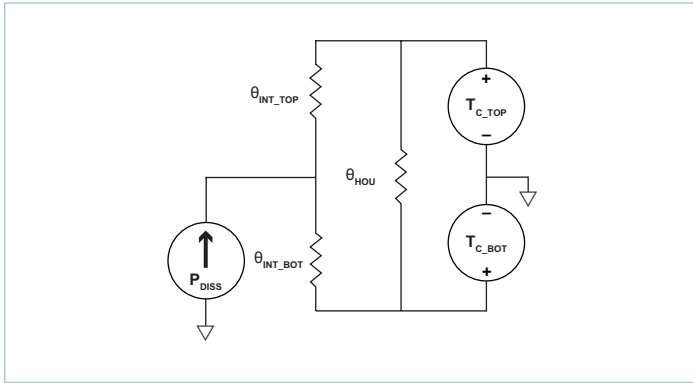
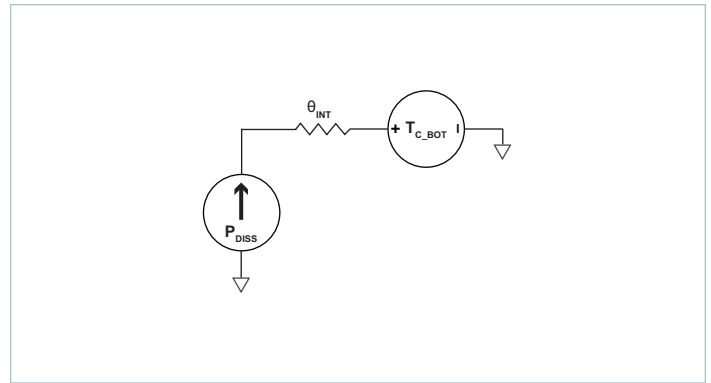

Figure 22 — Double-sided cooling VIA thermal model
Figure 23 — Single-sided cooling VIA thermal model
The VIA package provides effective conduction cooling from either of the two module surfaces. Heat may be removed from the top surface, the bottom surface or both. The extent to which these two surfaces are cooled is a key component for determining the maximum power that can be processed by a VIA, as can be seen from the specified thermal operating area in Figure 1. Since the VIA has a maximum internal temperature rating, it is necessary to estimate this temperature based on a system-level thermal solution. For this purpose, it is helpful to simplify the thermal solution into a roughly equivalent circuit where power dissipation is modeled as a current source, isothermal surface temperatures are represented as voltage sources and the thermal resistances are represented as resistors. Figure 22 shows the “thermal circuit” for the VIA module.
- Single side cooling: the model of Figure 22 can be simplified by calculating the parallel resistor network and using one simple thermal resistance number and the internal power dissipation curves; an example for bottom side cooling only is shown in Figure 23.